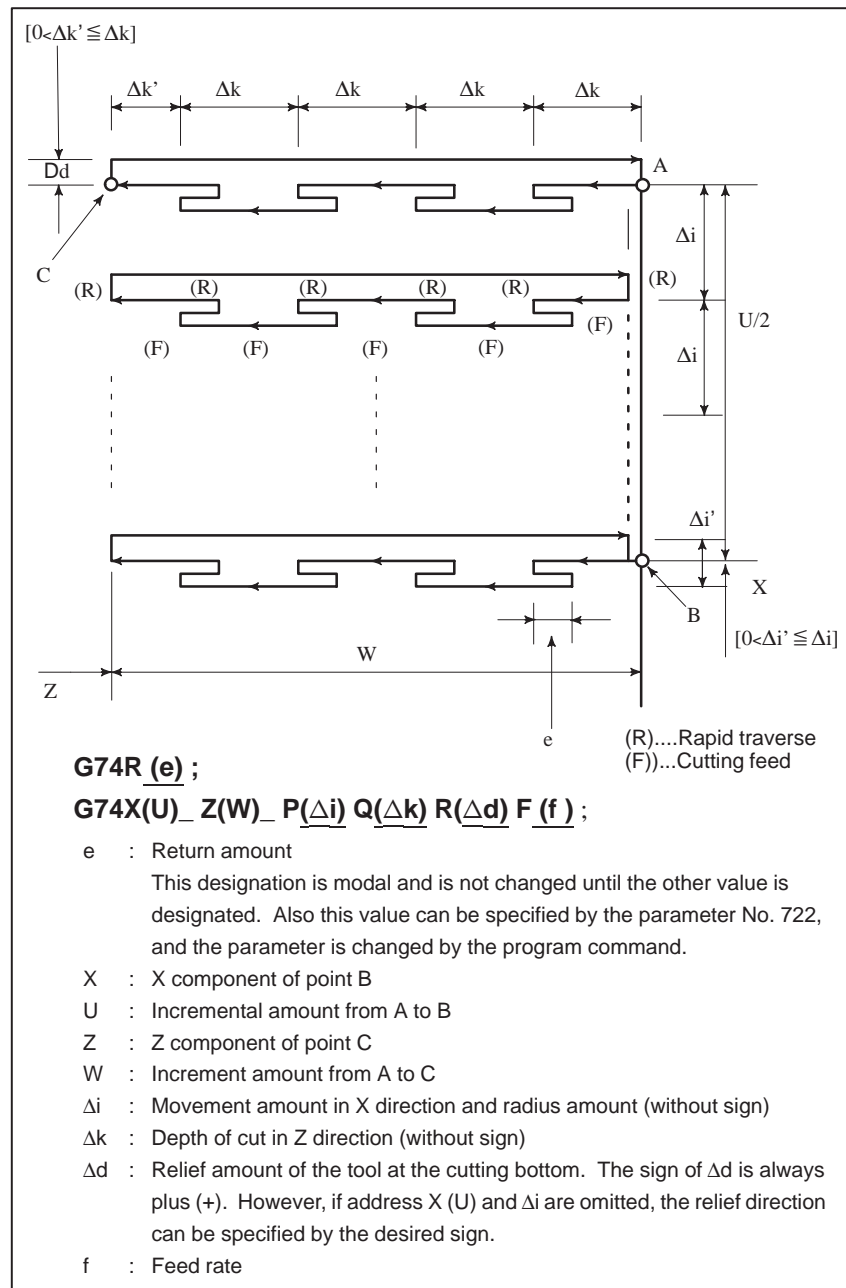

Fig. 13.2.5 Cutting Path in End Face Peck Drilling Cycle
The following program generates the cutting path shown in Fig. 13.2.5. Chip breaking is possible in this cycle as shown below. If X (3) and Pare omitted, operation only in the Z axis results, to be used for drilling.